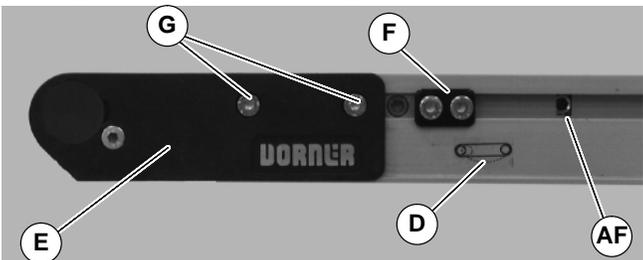

Figure 30
1. On tension end of the conveyor, identified with a  label (D of Figure 30), adjust head plate assembly (E): On both sides of conveyor, loosen fastening screws (G) and rotate pinion gear (AF) to adjust head plate assembly.
3. After adjusting proper tensioning, tighten fastening screws (G of Figure 30) on both sides of conveyor to 60 in-lb (7 Nm).
4. If equipped with cam tracking assemblies (F of Figure 30), position against head plates and adjust belt tracking. Refer to “Conveyor Belt Tracking” on page 9.